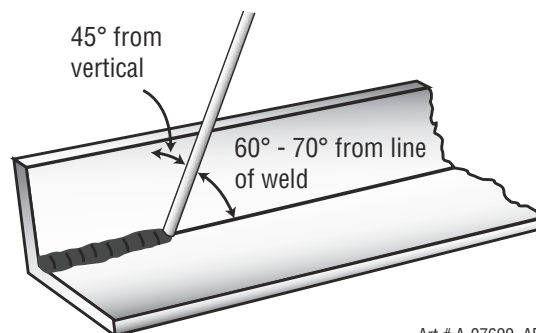
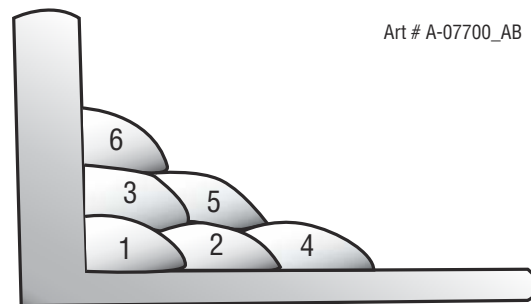

Figure 6-15: Electrode position for HV fillet weld
Figure 6-16: Multi-runs in HV fillet weld
A piece of angle iron is a suitable specimen with which to begin, or two lengths of strip steel may be tacked together at right angles. Using a 3.2mm Ferrocraft 21 electrode at 100 amps, position angle iron with one leg horizontal and the other vertical. This is known as a horizontal-vertical (HV) fillet. Strike the arc and immediately bring the electrode to a position perpendicular to the line of the fillet and about 45° from the vertical. Some electrodes require to be sloped about 20° away from the perpendicular position to prevent slag from running ahead of the weld. Refer to Figure 6-15. Do not attempt to build up much larger than 6.4mm width with a 3.2mm electrode, otherwise the weld metal tends to sag towards the base, and undercut forms on the vertical leg. Multi-runs can be made as shown in Figure 6-16. Weaving in HV fillet welds is undesirable.